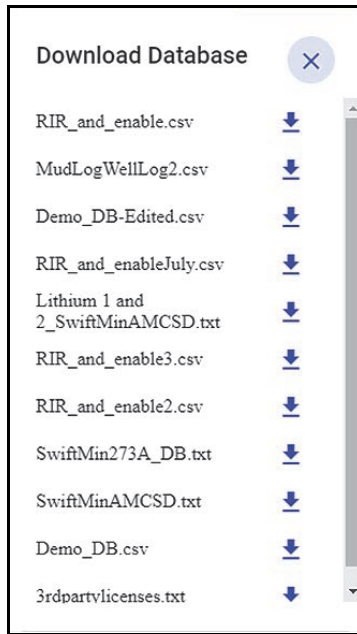

Figure 5-10 Download Database dialog box
2. In the dialog box, click the down arrow beside the database you want to download (see Figure 5-10 on page 76).